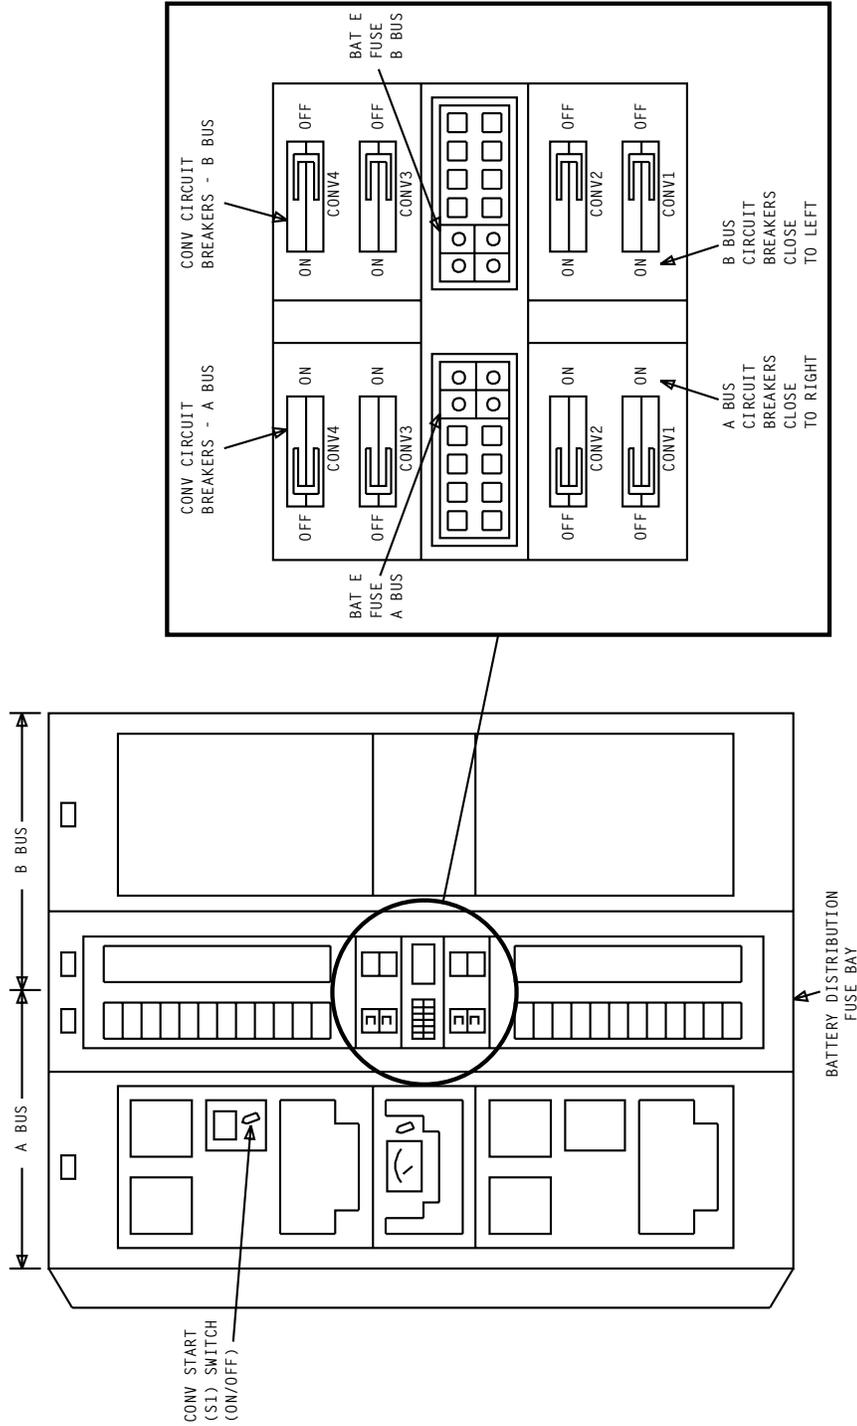

Figure 1. 620A Power Plant - Front View
4. Select a converter and set the **ON/OFF** switch to the **ON** position per Figure 1.
5. Set the associated circuit breaker to **ON** position per Figure 1.